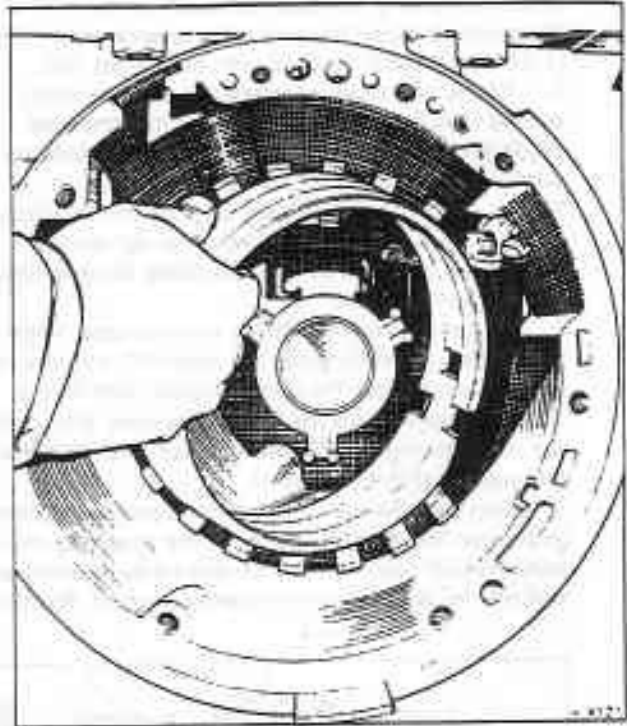

Fig. T19-21 Fitting the rear band
- 1. Fit the rear band assembly into the transmission case so that the band lugs engage with the anchor pins (see fig. T19-21).